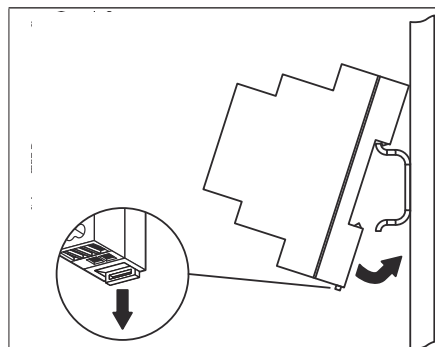
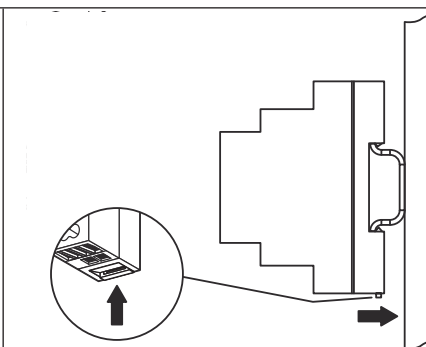
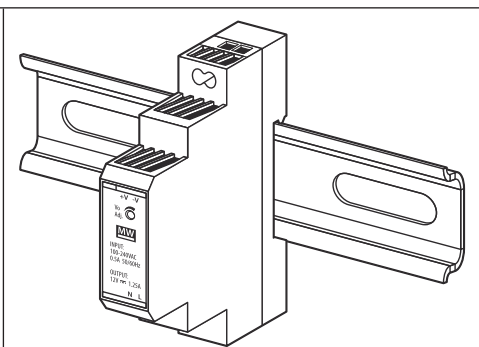

Fig. 29
Fig. 30
Fig. 31
- Fix the power supply to a DIN rail (following **Fig.29**, **Fig.30** and **Fig.31**).